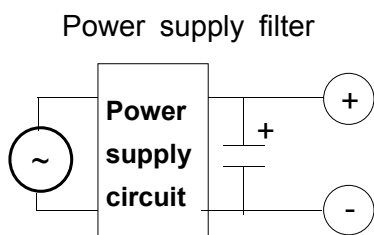

Fig. 1
► The voltage derating factor should be as great as possible. Under normal conditions, the operating voltage should be reduced to 50% or less of the rating. It is recommended that the operating voltage be 30% or less of the rating, particularly when the tantalum capacitors are used in a low-impedance circuit (see Figs. 1, 2, and 3).